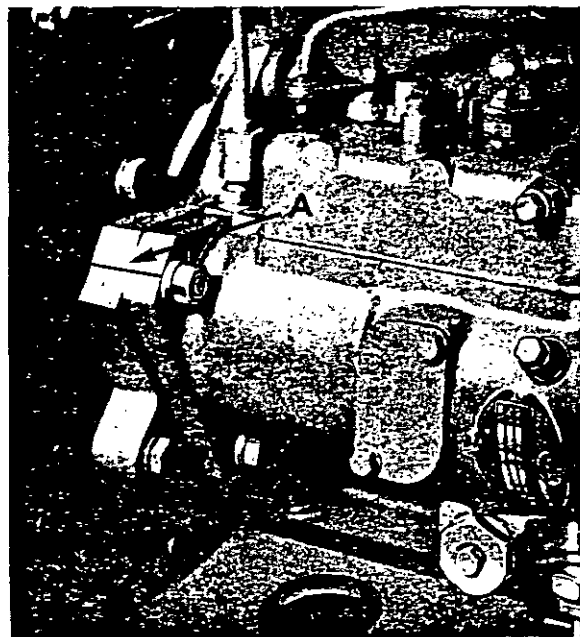

Figure 15. INJECTION PUMP TIMING-MARKS
The injection pump is attached by three studs on the engine carrier plate, and the pump mounting holes are slotted to permit pump body to be turned for injection timing adjustment. To assist in obtaining the correct timing position the pump flange is marked with a groove and when the timing is set during assembly a mark is made on the carrier flange in line with the mark on pump. Any pump can thus be fitted and the original timing obtained by placing the two marks in alignment. (See Fig. 15.)
3. Rotate pump body until timing marks line up (see Fig. 15) and tighten the three holding nuts.